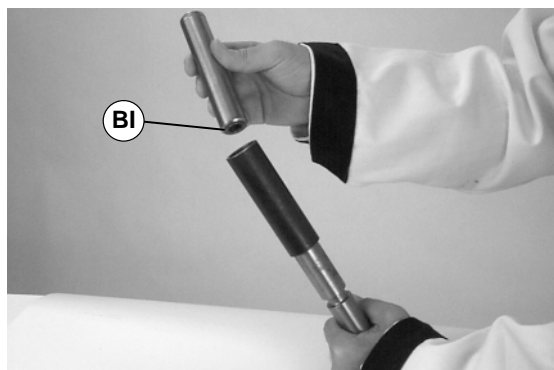

Figure 45
- Place open end of shaft (BI of Figure 45) into sleeve.